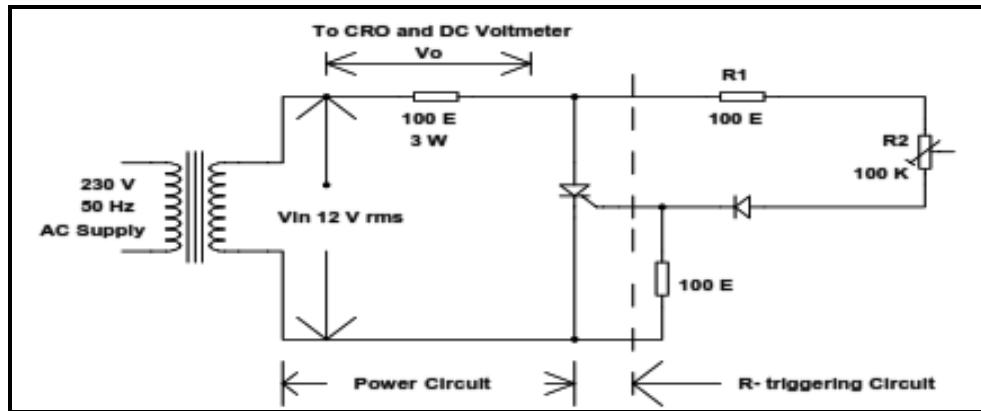

Fig. 4.1 R-triggering Circuit
1. Make the circuit connection as per the circuit diagram shown in Fig.4.1
1. Refer fig. 4.1 and 4.2; state the effect on load voltage if diode is open.
2. Refer fig. 4.1 and 4.2; state the effect on load voltage if R₁ and R₂ are short circuited.